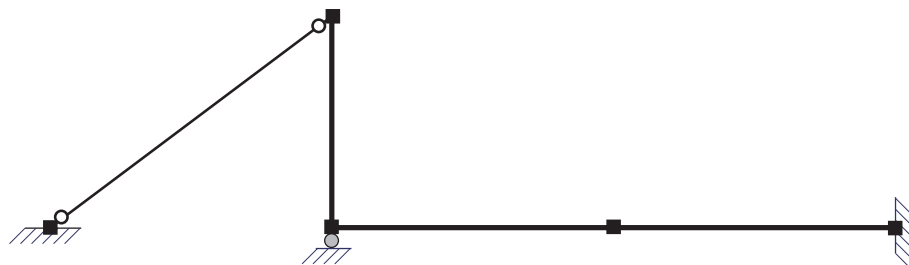

Figure 6: Deformed shape
3. Draw as accurately as possible in qualitative fashion the deformed shape of the *prestressed* structure under  $w$  in Fig. 6.